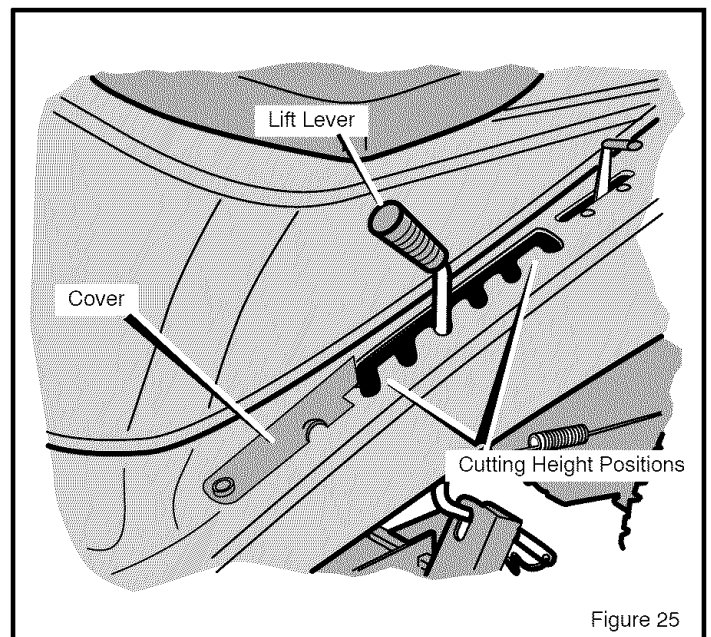

Figure 25
7. Raise the **lift lever** from the LEVEL ADJUSTMENT position to a CUTTING HEIGHT position (Figure 25).